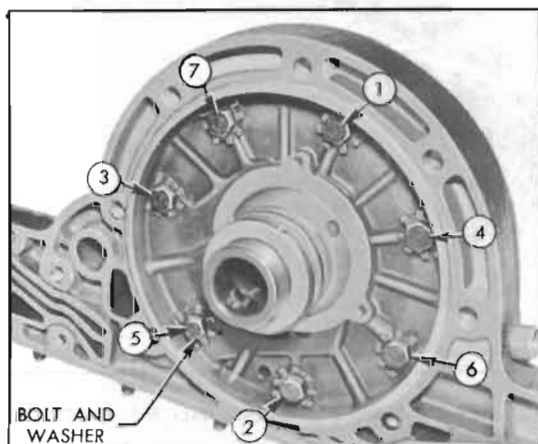

Figure 5-77—Front Oil Pump Tightening Sequence
4. Install oil pump on cover so that the two dowel pins and the bolt holes match holes in cover, then install bolts with lockwashers. Tighten bolts to approximately 5 ft. lbs. torque in the sequence shown in figure 5-77 and then tighten in same sequence to 25-30 ft. lbs. Bend a tang of each lockwasher up against flat of bolt head. Tighten cover attaching stud nut to 25-30 ft. lbs. torque.